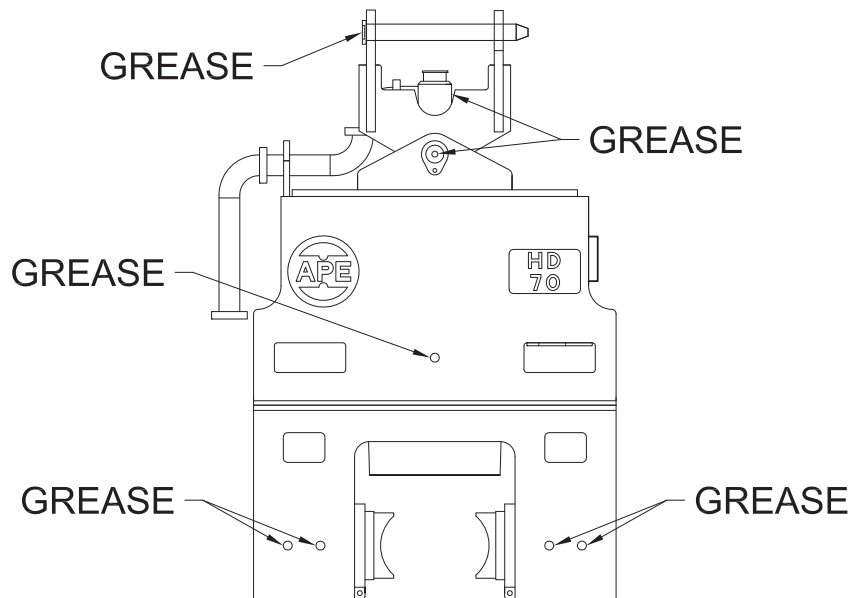

Figure 4-A. GREASE POINTS
- b. Grease the bale assembly pins, the rotary joint and the clamp cylinders with any good multi-purpose grease. As shown and described in Fig 4-A on the following page.